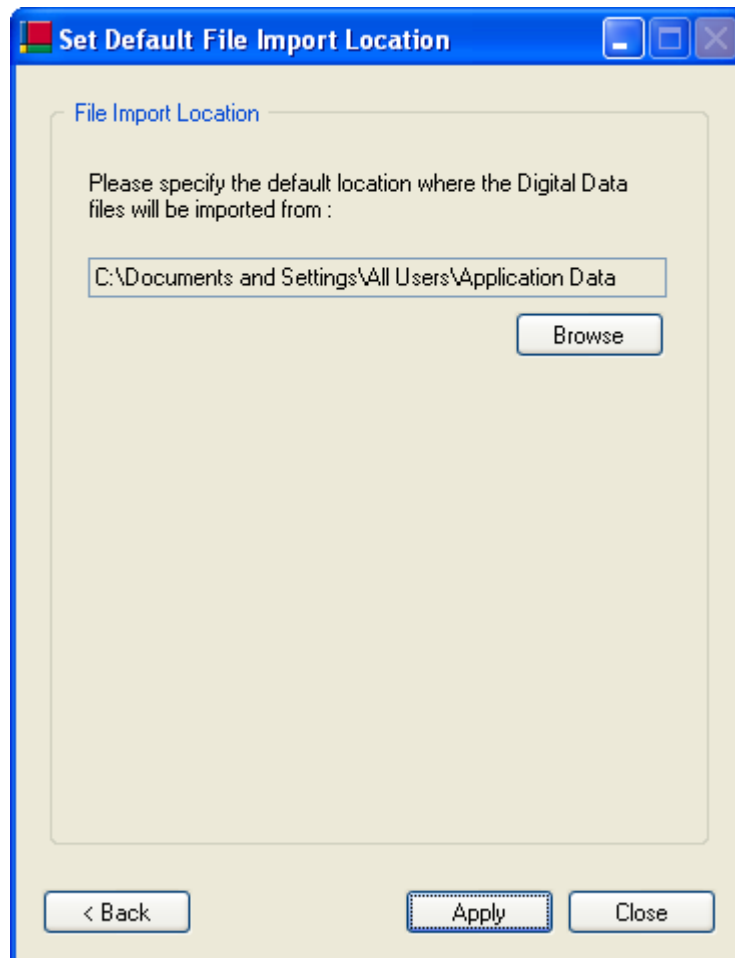

Figure 6
2.4. Click on 'Apply' in the screen as shown in *Figure 6* to save the changes.